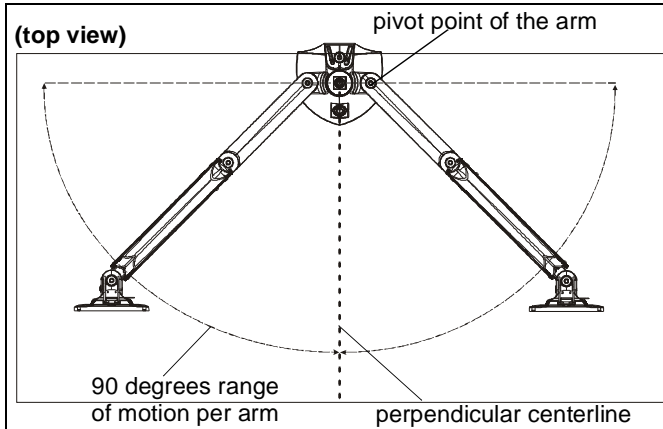

Figure 5
1. Adjust arm angles as desired within a 90 degree range from the pivot point of the arm and a perpendicular centerline of mount. (See Figure 5)